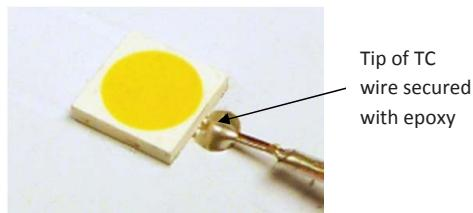

Figure 5. Photo showing actual placement of TC wire secured with thermal conductive epoxy. The thermal epoxy volume should be kept to minimum as shown.
The recommended location of the sensor pad is right next to the cathode of the LUXEON emitter on the PCB, as shown in Figure 4 and Figure 5. To ensure accurate reading, the thermocouple (TC) tip must make direct contact to the copper of the PCB onto which the LUXEON emitter cathode pad is soldered, i.e. any solder mask or other masking layer must be first removed before mounting the thermocouple onto the PCB. The tip of the TC wire where two dissimilar metals are welded should be placed as close as possible to the LUXEON emitter package on the exposed cathode copper layer as shown in Figure 4. The thermal resistance $R\theta_{j-s}$ between the sensor pad and the LUXEON emitter junction was experimentally determined on FR4 PCBs for the two different designs (see Table 1). The junction temperature can then be calculated as follows: